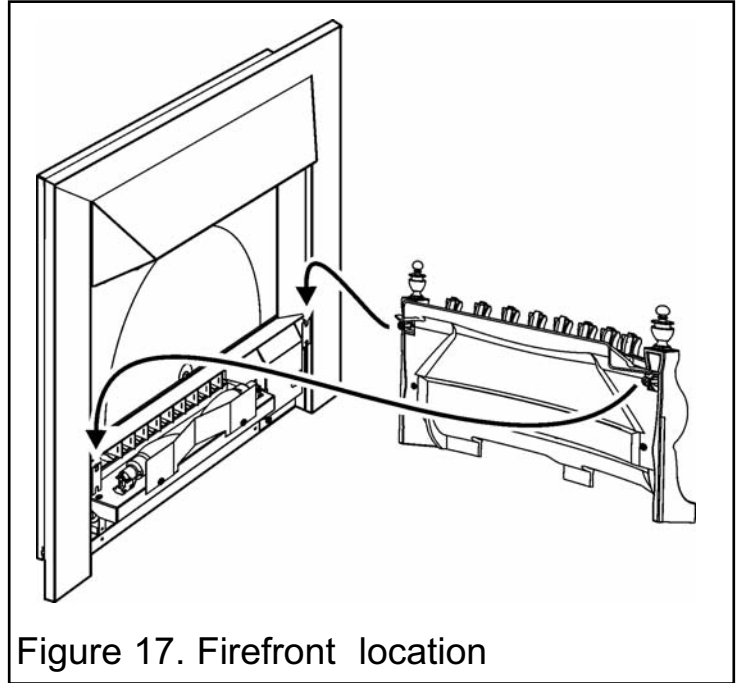

Figure 17. Firefront location
3. There are two hanging screws on the rear of the firefront. Locate these into the slots as in figure 17. If required, the screws can be adjusted, to aid installation.